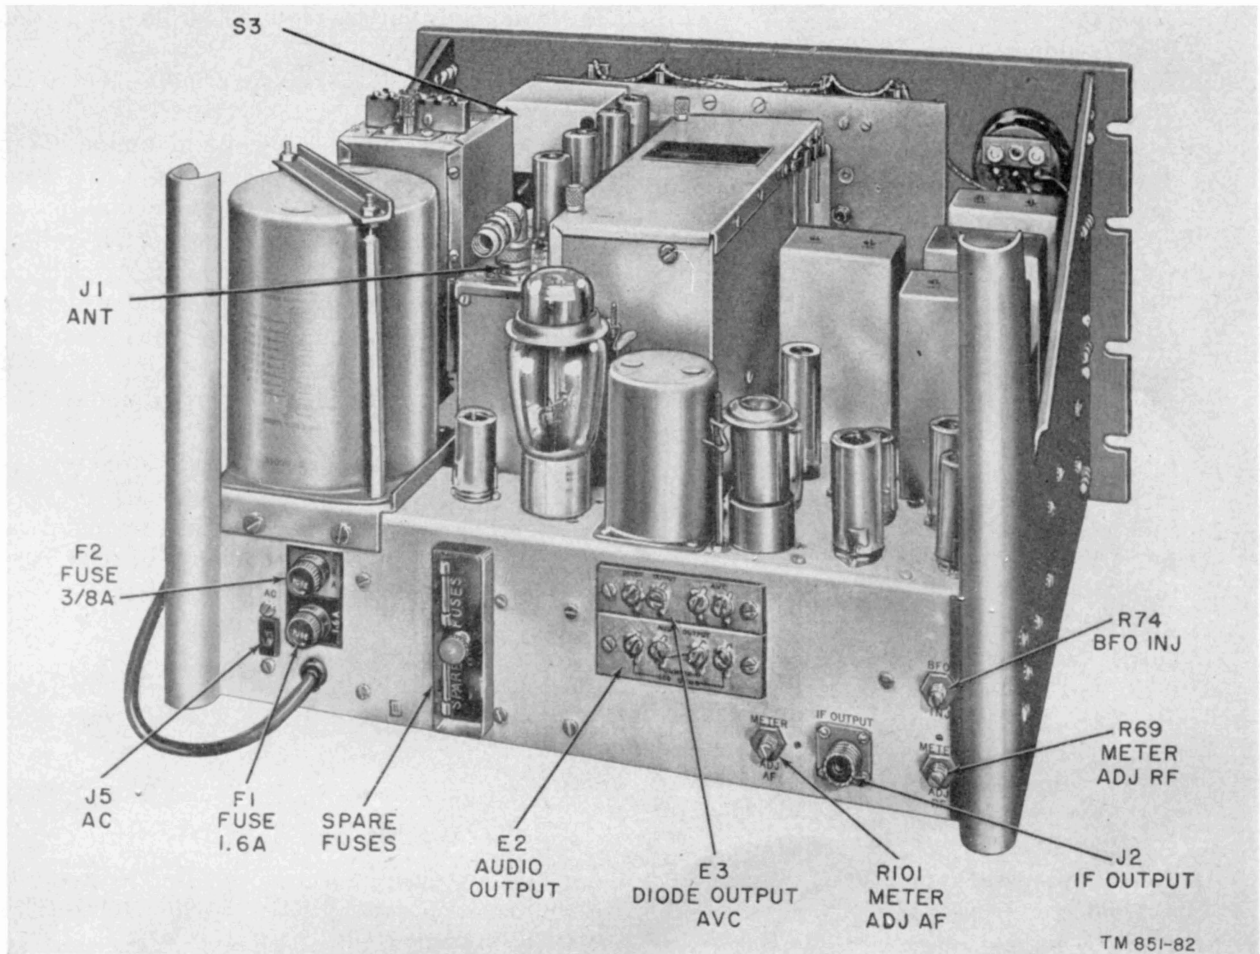

Figure 10. Radio Receiver R-274C/FRR, chassis and panel assembly, rear view.
*b.* Figure 4, showing the front view of Radio Receiver R-483/FRR, is equally applicable to Radio Receiver R-483A/FRR. Radio Receiver R-483A/FRR utilizes the top-hat type of tube clamps (fig. 10) and its rear apron is identical with that outlined for Radio Receiver R-274C/FRR (par. 12*b* and *c*).